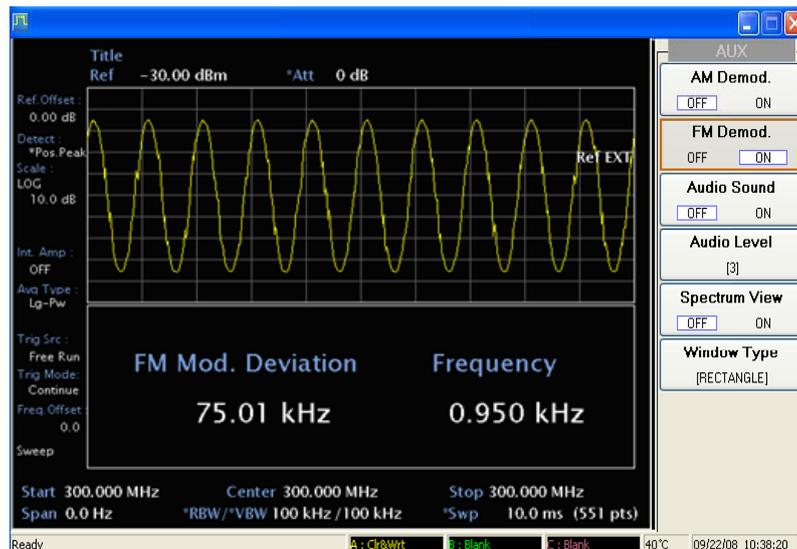

Fig. A-26 Measuring modulation using FM demodulation function
- 7 Adjust the sweep time by pressing [SWEEP], [*Sweep Time*] 10 ms. See Fig. A-26.